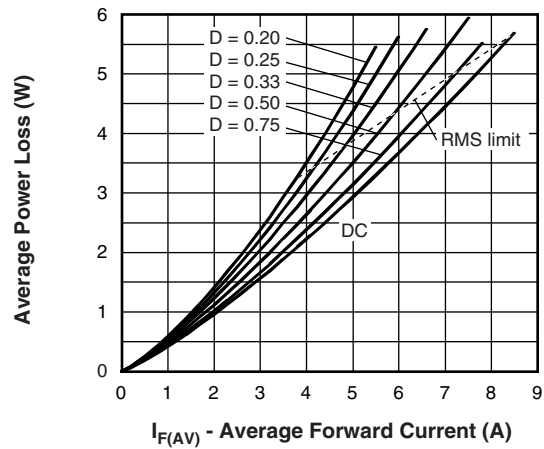

Fig. 6 - Forward Power Loss Characteristics (Per Leg)
- (1) Formula used: $T_C = T_J - (P_d + P_{d_{REV}}) \times R_{thJC}$;
- P_d = Forward power loss = $I_{F(AV)} \times V_{FM}$ at $(I_{F(AV)}/D)$ (see fig. 6);